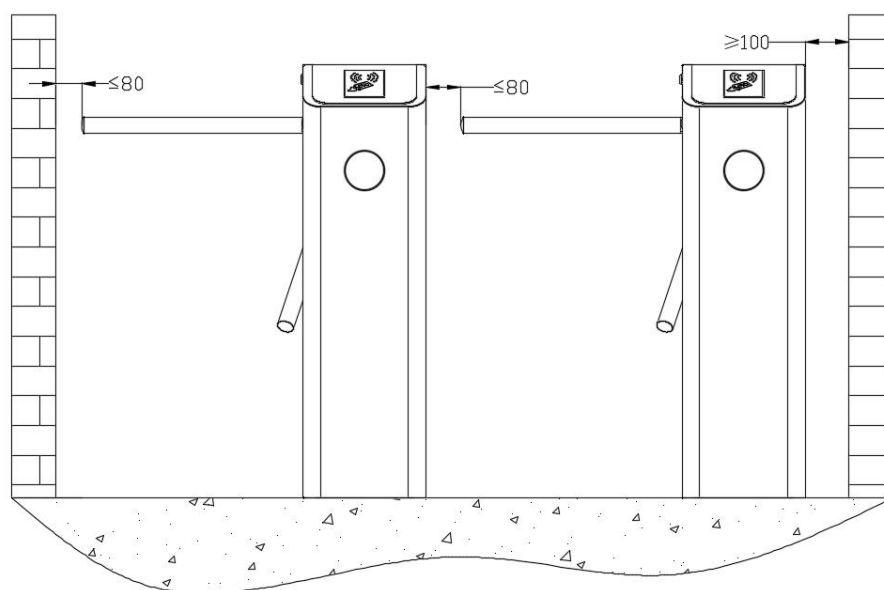

Figure 3-1
You are suggested to install an assistant framework or fence to form a passageway, as shown in Figure 3-1.
2. The space at the end of the arm shall not be greater than 80 mm (see Figure 3-1).